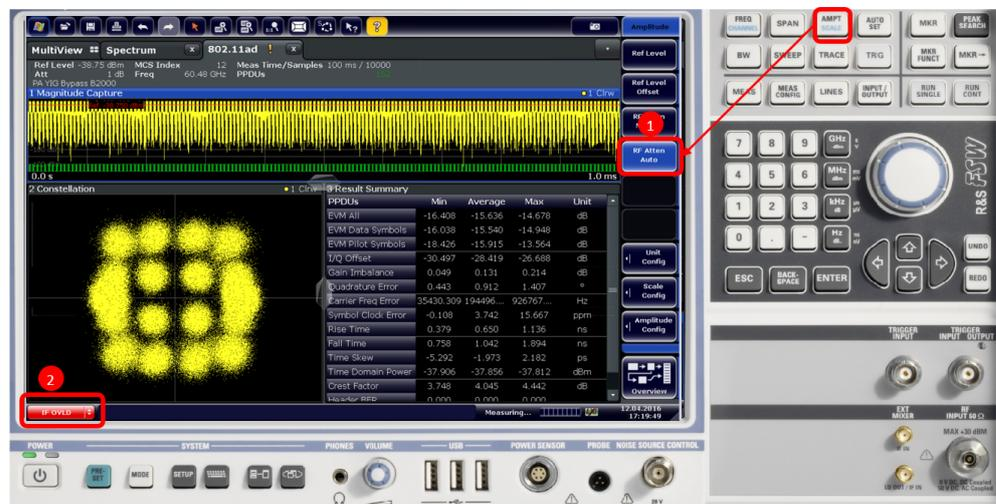

Figure 4-13: Default View of 802.11ad signal
- The 802.11ad (K95) is the active channel (see Figure 4-13)
1. Click **AMPT** button and set the **RF Atten Auto** (see Figure 4-13).